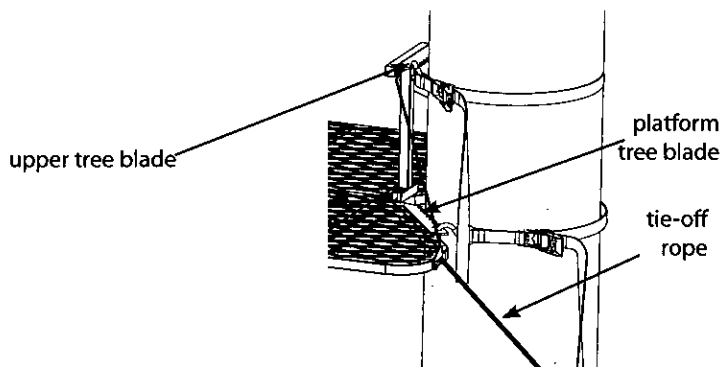

Figure 5b: Applies to RE623, RE624, and RE632
5. **FOR RE623, RE624 AND RE632 ONLY:** Repeat step 4 for second tree blade attachment by placing "S" hooks through holes provided on second tree blade. **SEE FIGURES 5b, 6, AND 7.**